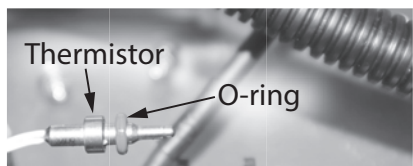

Figure 233 - Thermistor O-ring location
**26** Locate the (3.8 x 1.9) O-ring provided in the kit. Place the O-ring over the thermistor and install it in the outlet assembly base. See Figure 233.
**6** Locate the three (3) screws securing the X3®/Bypass cartridge as shown in Figure 233. Remove the **(A)** M4-12mm screw and the two **(B)** M4-25mm screws from cartridge. Place screws aside in a safe place for reinstallation.